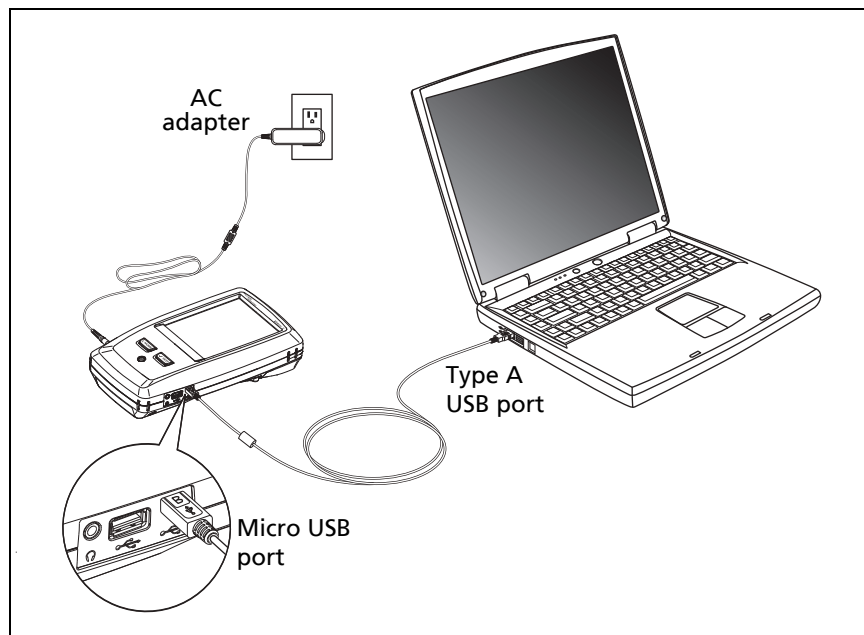

Figure 130. How to Connect the Tester to a PC
- 2 Connect the AC adapter to the tester and connect the Micro USB port on the tester to a type A USB port on the PC. See Figure 130.